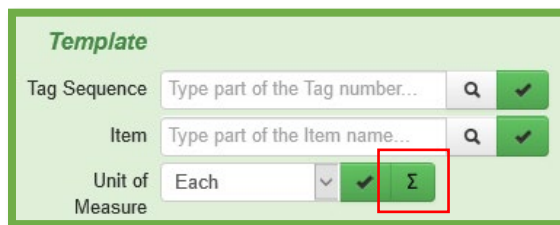

Figure 8: Auto-Sum Button in New Packages Template
Users now have a new button within the *New Packages* template that allows all new package quantities to be “Auto-Summed” based on the quantity removed from the source package. This button, shown in **Figure 8**, functions exactly as the *Auto-Sum* button does for each individual new package. Meaning, if a licensee has one source package of one hundred (100) cookies and wants to create ten (10) packages of ten (10) cookies each, the quantity removed from the source package would be set to ten (10) each for all ten (10) new packages. When selected, the *Auto-Sum* button populates the quantity of each new package with ten (10) each/cookies.